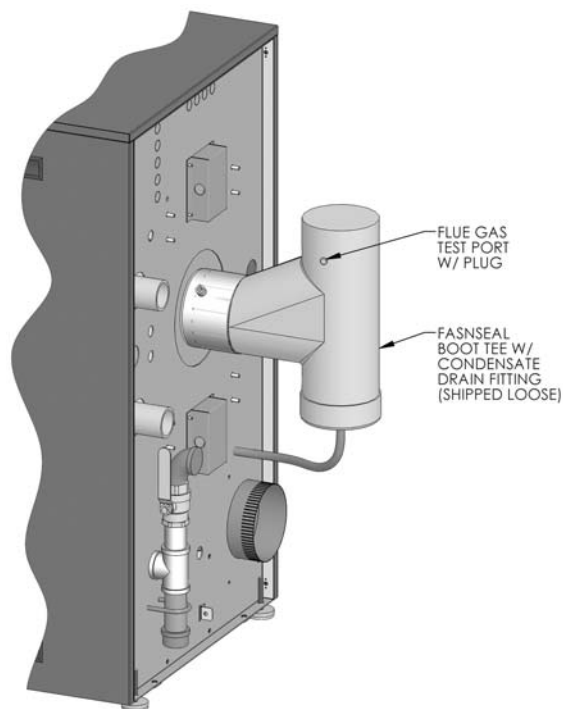

Figure 3.10: Exhaust Vent Connection
1. Figure 3.10 shows the exhaust connection on the rear of the boiler on the vertical centerline. The exhaust connection is a FasNSeal stainless steel boot tee with a drain which is included with each PF-850, PF-1000 and PF-1500 boiler. The tee provided is be connected directly to the rear of the boiler as shown in Figure 3.10.
3. The Air Intake connection should be secured with (3) screws and sealed.
1. Figure 3.10 shows an illustration of the plugged sample port on the outlet of the drain tee for the PF-850, PF-1000 and PF-1500 boiler.